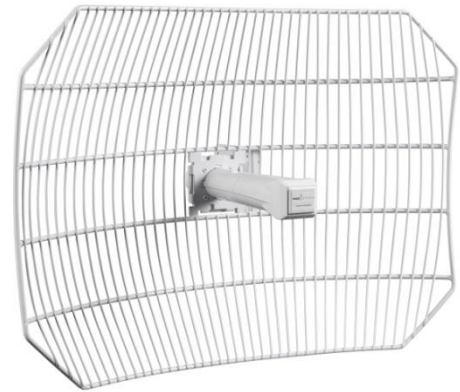

Figure 2 MND5-G27 MagiNode™
- 1- MND5-G27 (Figure 2): Operates in the 5GHz ISM band. It has a 27 dBi Antenna, is the workhorse of the system. Used for the longest hops.